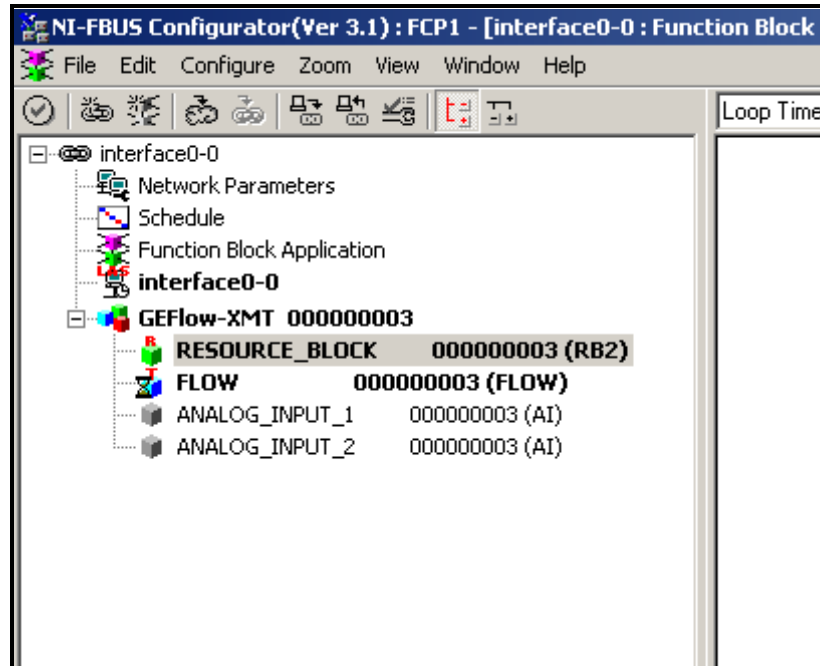

Figure 40: Configuration Utility Setup Example
Figure 40 shows the Configuration Utility with a flowmeter on the network (Panametrics Flow-XMT).
1. Double click on the AI block for which you wish to set the units (ANALOG_INPUT_1 or ANALOG_INPUT_2 in the tree under GEFlow-XMT; see Figure 40 on page 130).
1. Double click on the FLOW transducer block (in the tree under GEFlow-XMT; see Figure 40 on page 130).